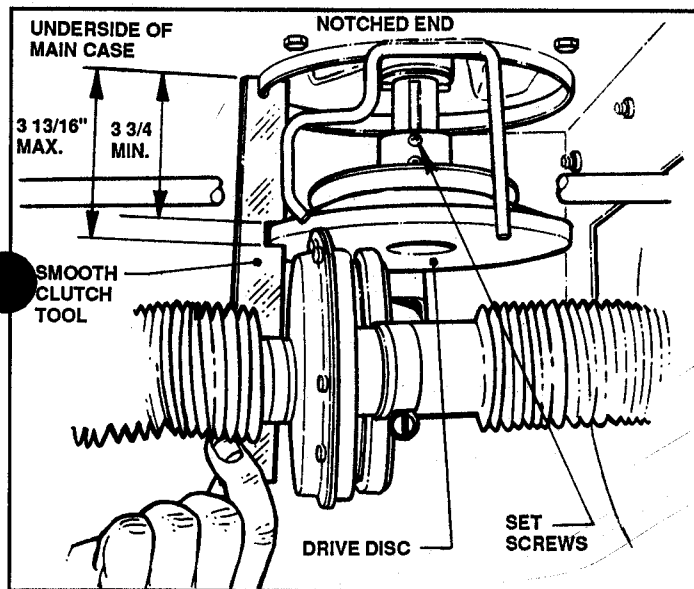

FIGURE 4.2
- A. A loose or improperly set drive disc may cause drive problems. The smooth surface of the drive disc must be set 3-3/4" to 3-13/16" from the underside of the main case to make proper contact with the driven disc. This can be accurately measured using the **SNAPPER #3-2392 gauge tool (SPECIAL SMOOTH CLUTCH TOOL)**. See Figure 4.2.
- B. To adjust, loosen the two setscrews securing the drive disc to the engine crankshaft and move disc up or down to correct setting. See Figure 4.2.
- A. Check to make sure engine drive disc is 3-3/4" to 3-13/16" below the underside of the main case. See Figure 4.2.